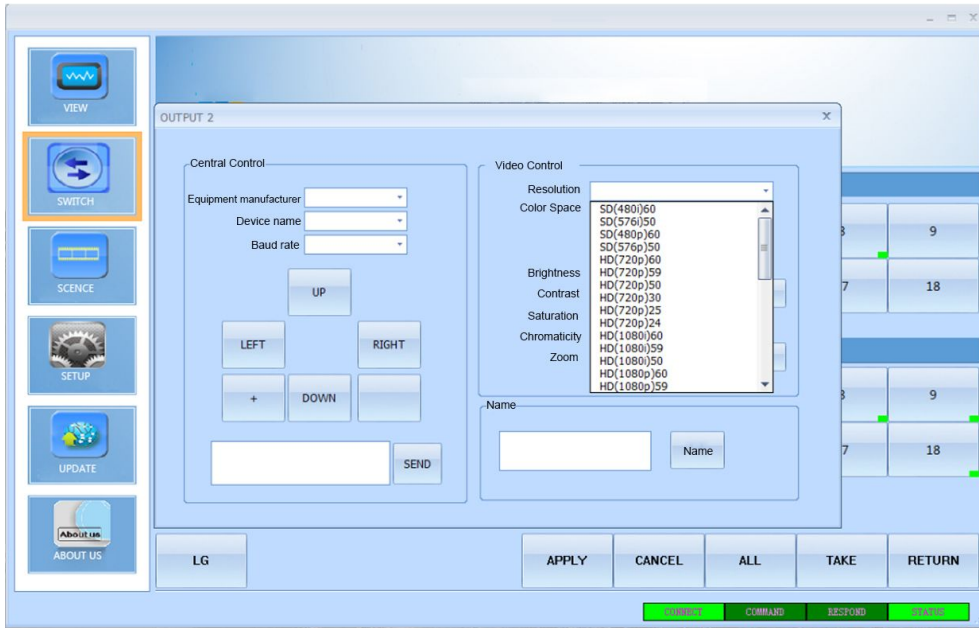

Figure 6.5.2 Output card central control, video control, name operation interface
2)**Output card**:double click the output signal in "SWITCH " interface, pop-up interface in figure 6.5.2 , in "control" column in which we can control the camera and other equipment connected to the card(**this function needs to ask suppliers for relevant information, command sent form see table 1**).In video control column we can choose various resolutions of the output card, adjust the brightness, contrast and saturation of the image.In the name column, we can enter a new name, and click "name" to change the name of the current input signal.